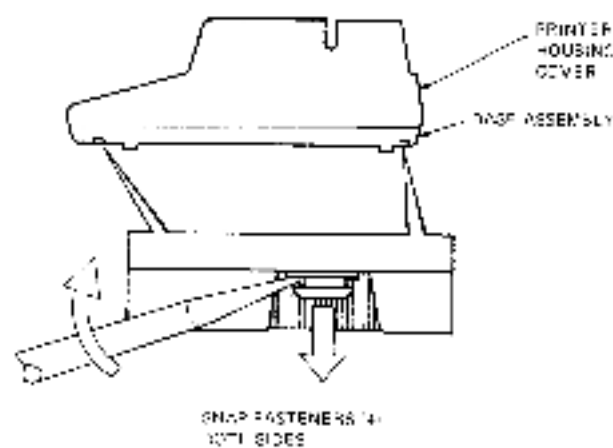

Figure 3-3 Printer Housing Removal
6. Use a small blade screwdriver to release the four snap fasteners that secure the printer housing to the base assembly (Figure 3-3). Remove the printer housing.
6. With a small blade screwdriver, release the four snap fasteners that secure the printer housing cover to the base assembly. Remove the printer housing (Figure 3-3).